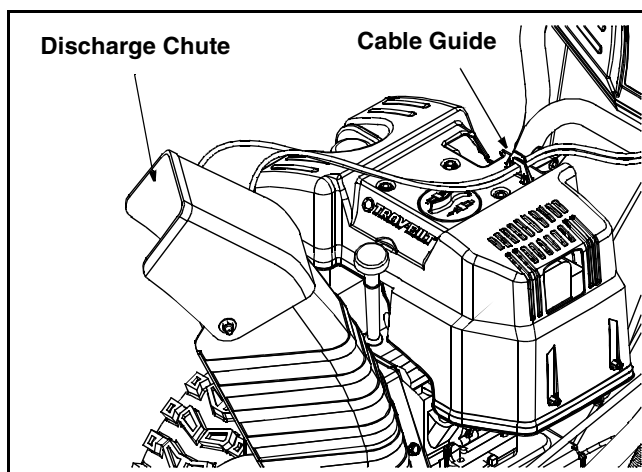

Figure 5
- If not already routed, slip the cables that run from beneath the handle panel to the discharge chute through the cable guide located on top of the engine housing. See Figure 5.